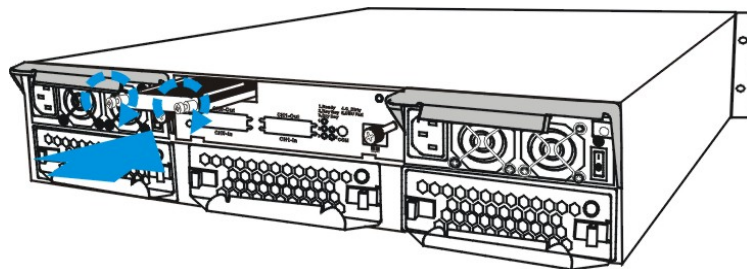

Figure 2-4: Installing the BBU Module
Step 4. **Secure the BBU module to the chassis.** Fasten the two (2) retention screws on the BBU module rear panel to secure the BBU module to the chassis. (See *Figure 2-4*)